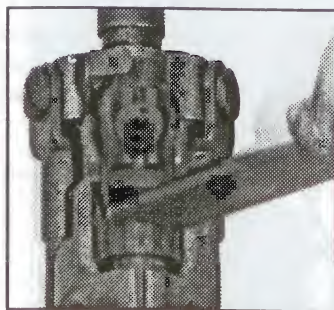
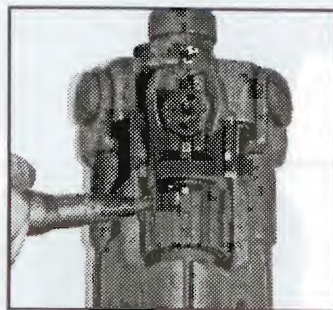

Fig. 8
Fig 9
N.B. If the special spanner (fig 8) is not available, adjustment can be made with the nose of a cartridge (fig 9), or even by hand.